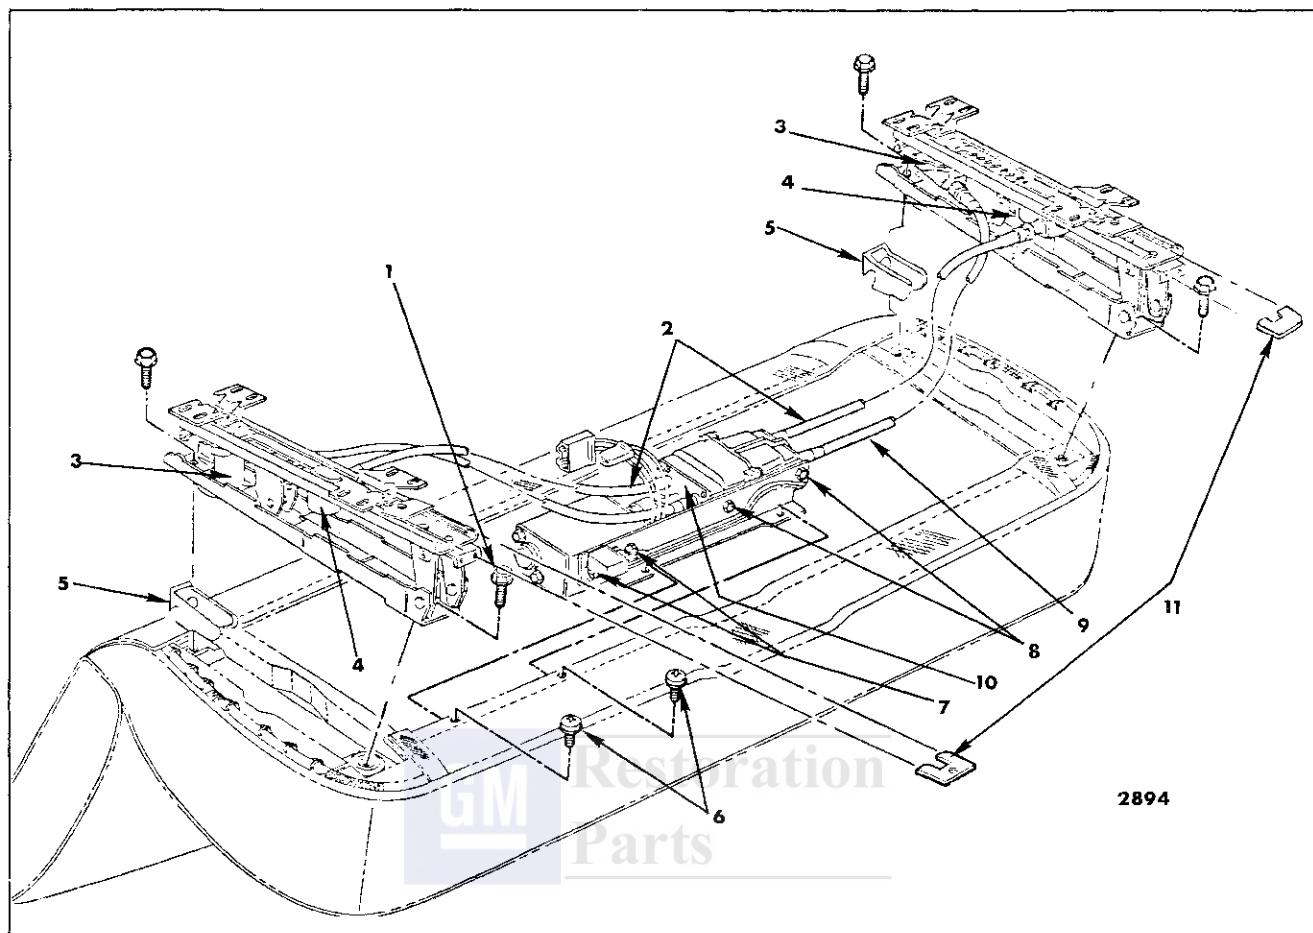

Fig. 15-13—Front Seat Assembly — Four-Way Tilt — Buick "B, C & E" Styles
3. Remove screws securing motor and transmission support to seat bottom frame ("6", Fig. 15-13).
2. Detach both horizontal and vertical cables from seat adjuster (See Fig. 15-13).
4. Remove transmission to support attaching bolts (Fig. 15-13); then, disengage transmission from rubber coupler and remove transmission from seat assembly.